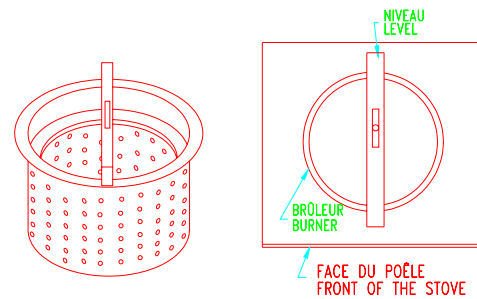

Figure 9B: LEVELLING THE BURNER
- Put the level in the middle of the burner parallel to the sides. (Figure 9B). Screw or unscrew the adjustable legs to level the burner with a 7/16" key.